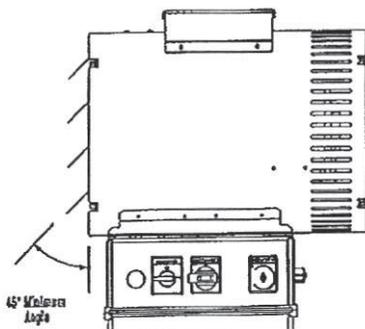

Figure 3 - Louver Adjustment
9. Outlet grille is factory formed with louvers set at a 45° angle. This is the minimum angle allowable to avoid potential overheating. Louvers may be opened up to 90° if desired to allow for better air throw by bending each louver outward. See Figure 3.